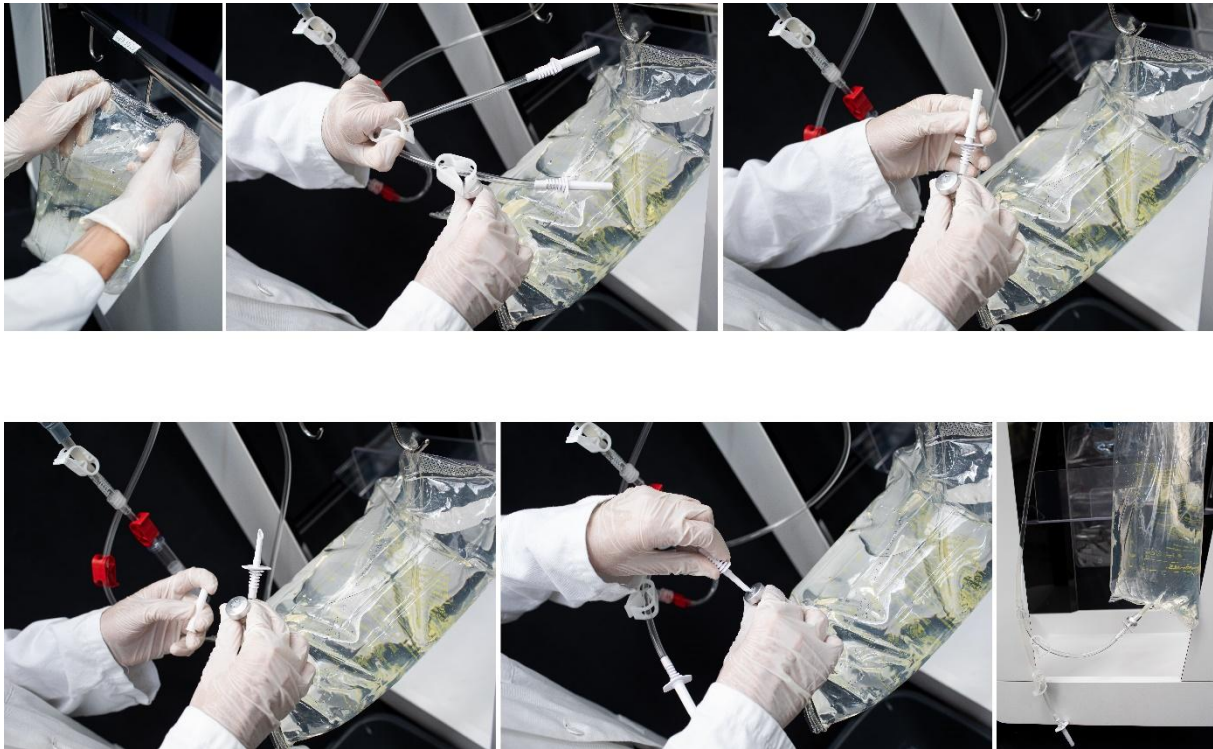

Figure 126: Changing the Washing Solution Bag
- First, the physiological saline bags are used and empty at the same time. To change this bag, wait for the ATS to finish a treatment cycle or pause the treatment when the fibre is in physiological saline (See Figure 126):
- Third, if only 1 bag is installed and empty. To change this bag, wait for the ATS to finish a treatment cycle or pause the treatment when the fibre is in physiological saline (See Figure 126):